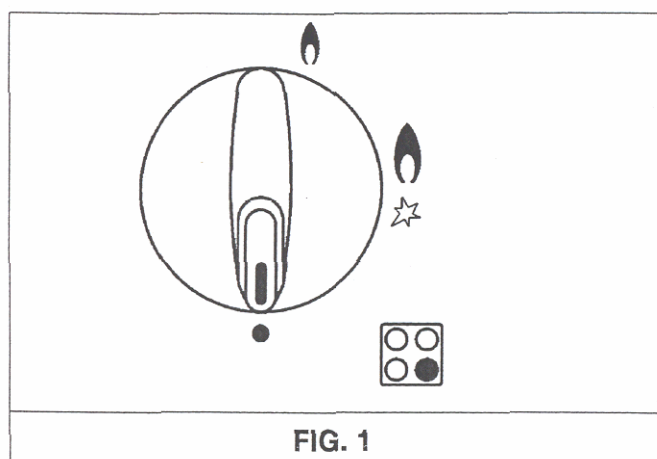

FIG. 1
Push and turn the knob corresponding to the required burner in an anticlockwise direction until it reaches the full on position (large flame fig. 1), then place a lighted match near the burner.
Push and turn the knob corresponding to the required burner in an anticlockwise direction until it reaches the full on position (large flame fig. 1), then depress and release the ignition button "E".
Push and turn the knob corresponding to the required burner in an anticlockwise direction until it reaches the full on position (large flame fig. 1), then depress the knob.
The knobs of burners equipped with flame failure device must be turned in an anticlockwise direction until they reach the full on position (large flame fig. 1) and come to a stop. Now depress the knob in question and repeat the previously indicated operations.
- When the pan comes to the boil, set the knob to the reduced rate position (small flame fig. 1).
- **Burners with flame failure device may only be ignited when the relative knob has been set to the Full on position (large flame fig. 1).**